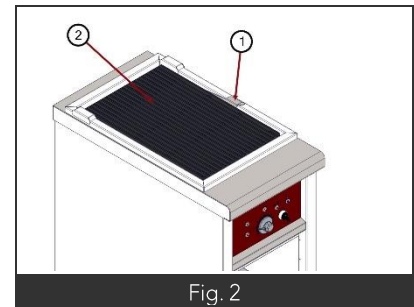

Fig. 2
- Pull the lever on the right side of the griddle (Fig. 2 – Mark. 1).